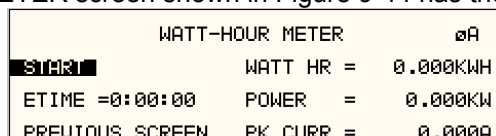

Figure 9-44 Watt-Hour Meter Screen
- The WATT-HOURS METER screen shown in Figure 9-44 has the following fields: